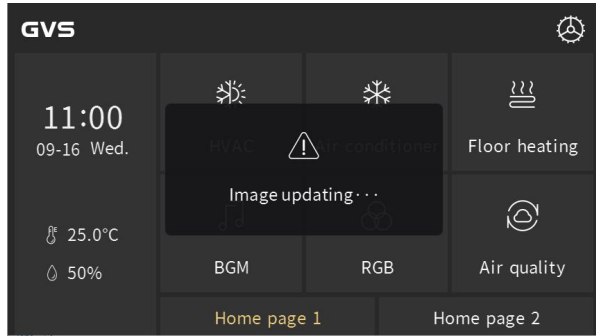
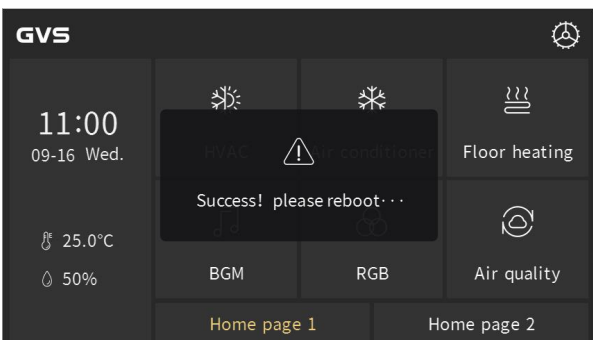
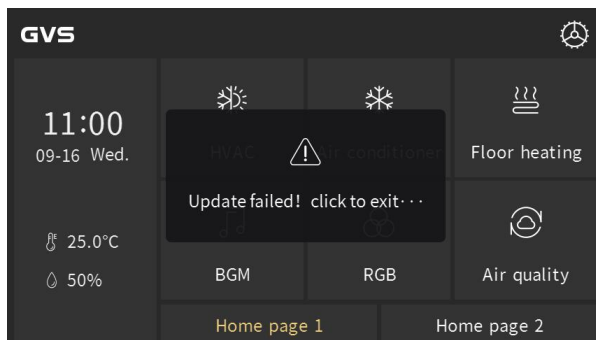
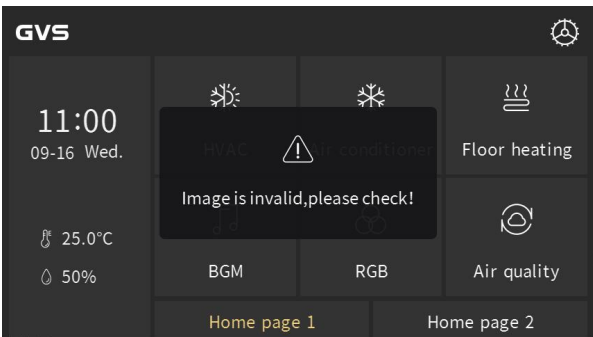

Fig.5.2
Fig.5.3
Fig.5.4
Fig.5.5
② Update pictures: when there is a folder named "Pageicon" in the Micro SD card, and there is a picture in accordance with valid name and format, then it will update and store (even if the picture is the same as the last saved).
3. Click "Confirm" to update picture; after upgrade, there will pop up a window of the result, if upgrade is successful, reboot the device manually to apply the new page icons to the system; if upgrade is failed, click any area outside the window to return to the page, as shown in Fig.5.2, Fig.5.3, Fig.5.4 and Fig.5.5.